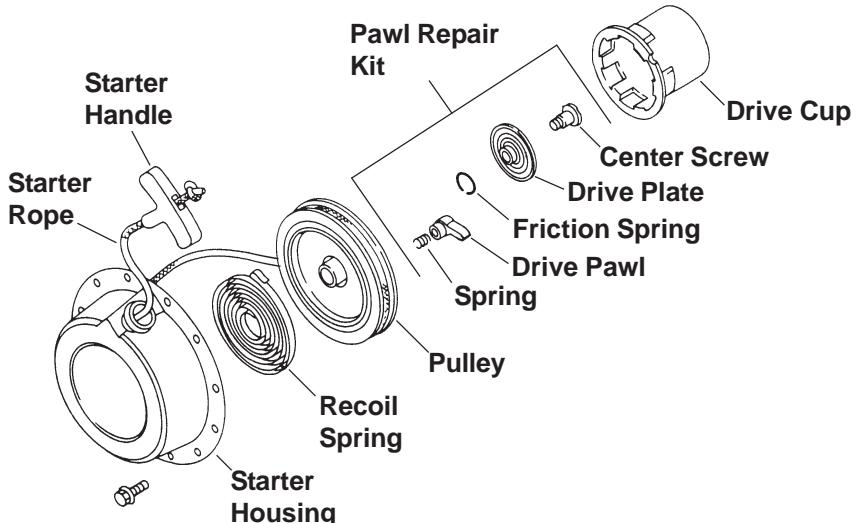

Figure 7-1. Retractable Starter - Exploded View.
- Carefully inspect the components for wear, cracks, and/or damage. Replace all worn or damaged components. Use only genuine Kohler replacement parts as specified in the parts manuals. All components shown in Figure 7-1 are available as service parts. Do not use nonstandard parts.